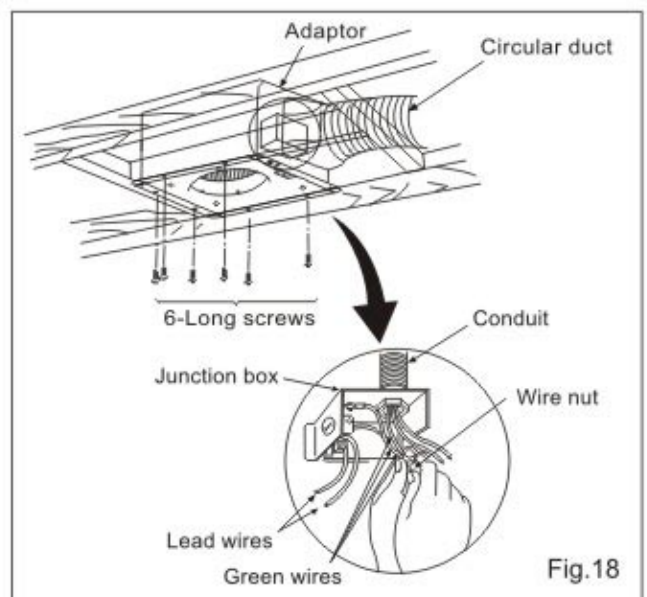

Fig.18
- Install the ventilating fan and secure with screws. (Fig.17, Fig.18)
- Insert the circular duct to the adaptor. Remove the junction box cover and secure conduit to junction box knockout hole. (7/8 inch) (Fig.18)